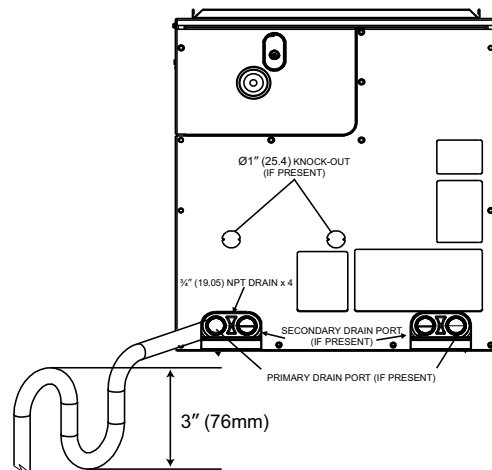

Fig. 8 – Condensate Trap
- Make trap at least 3 inches (76 mm) deep and no higher than the bottom of unit condensate drain opening (Fig. 8).